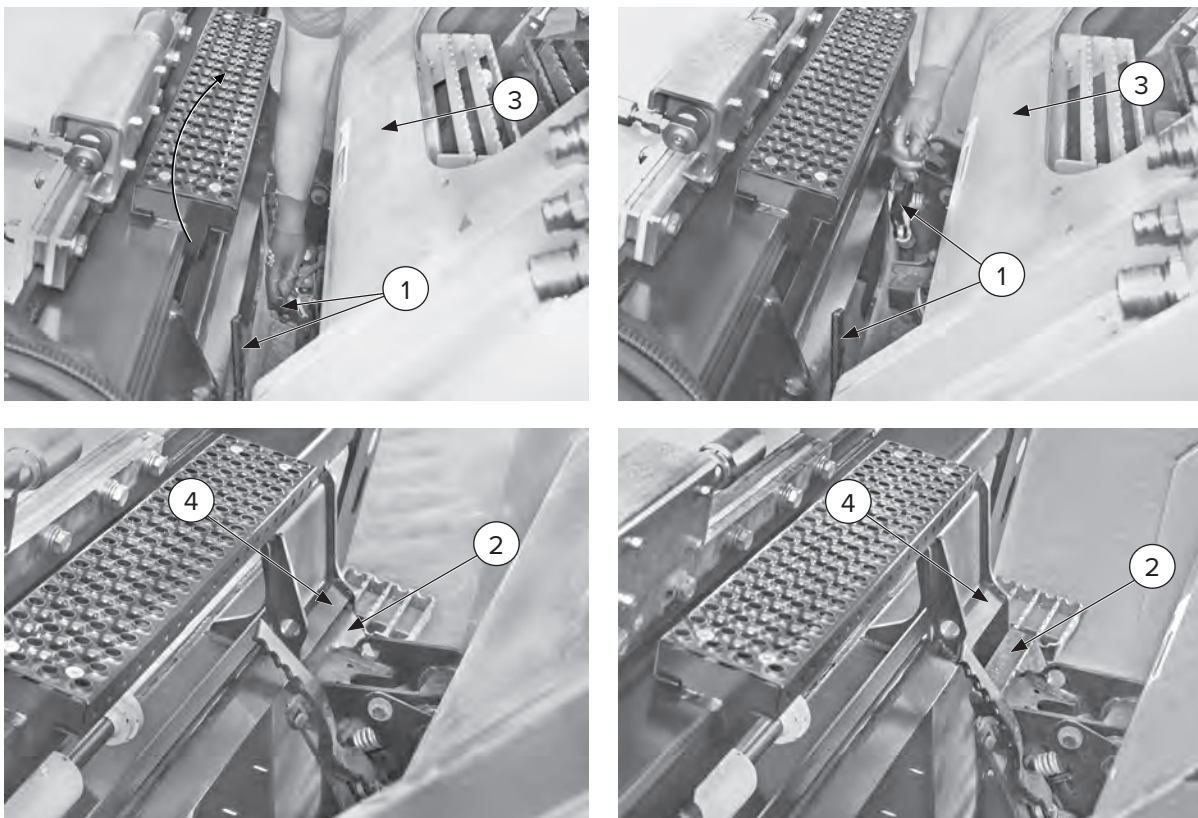

Figure 6
4. To disconnect the hoses with the flat-faced quick couplings: turn the ring nut [Figure 6, Item 3], so that the notch [Item 4] lines up with the spherule [Item 5], push the ring nut [Item 3] towards the spherule [Item 5] to disconnect the quick coupling.
4. Pull the two (2) levers [Figure 6, Item 1] towards you to release the quick coupling locking pins.